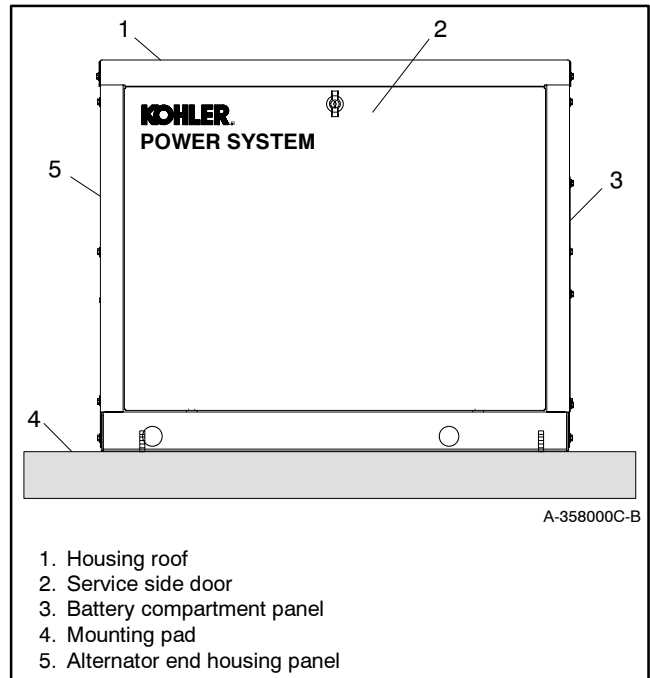
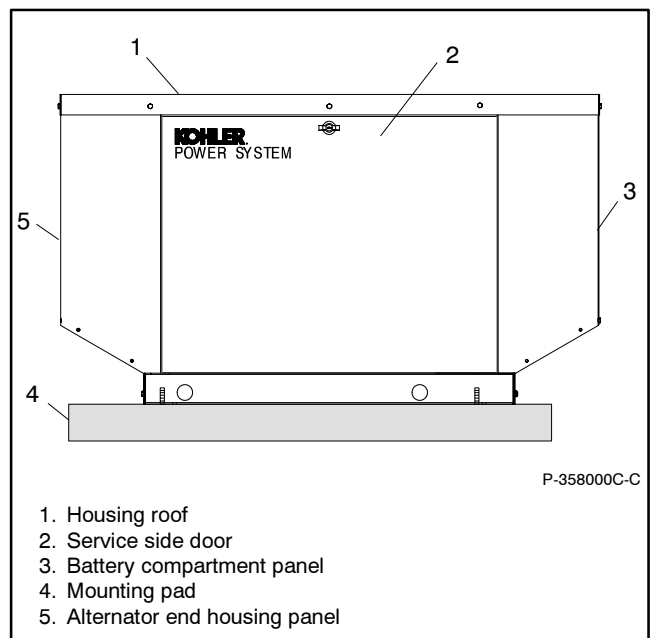

Figure 8-1 Generator Set Weather Housing
Figure 8-2 Generator Set Sound Enclosure
- a. Remove the service side door from the generator set housing. See Figure 8-1 or Figure 8-2.
- b. Remove the generator set housing roof. See Figure 8-1 or Figure 8-2.
- c. Remove the alternator end housing panel. See Figure 8-1 or Figure 8-2.
- d. Remove the non-service side housing panel. See Figure 8-1 or Figure 8-2.